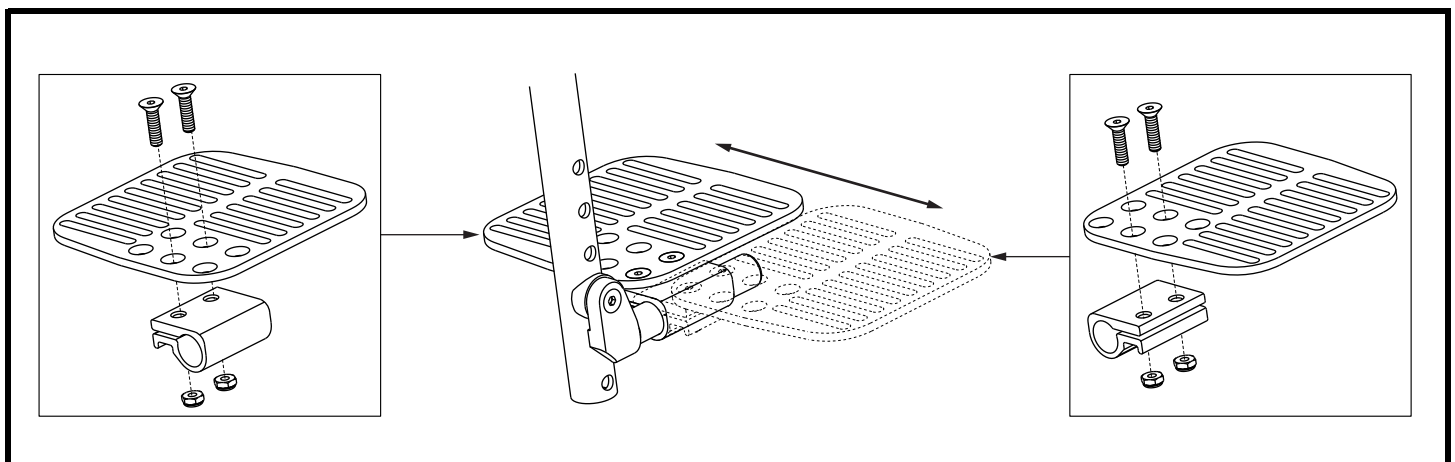

Figure 28. Foot Plate Depth Adjustment
1. Remove the screws and nuts from the foot plate assembly. See **figure 28**.
3. Reposition the foot plate on the foot plate adapter to achieve the desired depth. See **figure 28**.